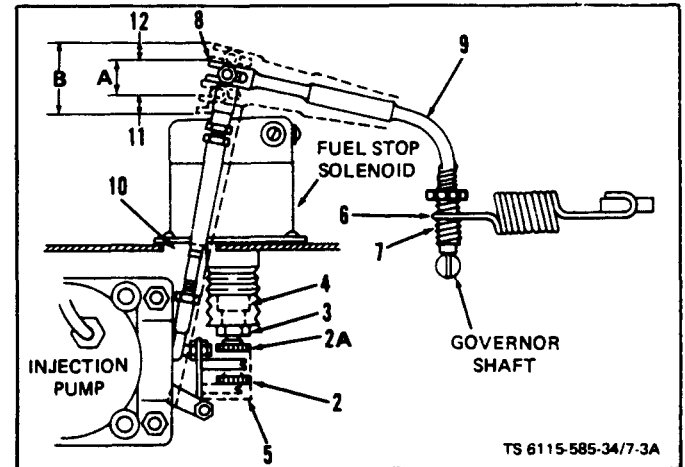

Figure 7-3.1. Governor Linkage Adjustment
f. Preliminary Linkage Adjustment (figure 7-3.1). The following adjustments shall be made before starting the engine if the linkage was replaced.
(1) With link (1) compressed, adjust length between ball joints to 5-1/2 in.
(2) Set solenoid bumper screw to shut off position, dotted line (2), by loosening locknut (3) on solenoid plunger (4). With plunger down, adjust bumper screw to push control unit post down, dotted line (5), to maximum shutoff position.
(3) Hook governor spring (6) in the mid-range of sensitivity ratchet (7).
(4) Manually move governor arm and linkage to check for interference.
(5) Adjust position of upper ball joint in slot (8) on governor arm (9) so link (1) does not bind against fuel stop solenoid or hole (10). A slight contact of link to bottom of solenoid is permissible but only at shut down. The fuel control unit should move up to position (2A) when solenoid is energized with start switch.
h. Speed Droop Adjustment (figure 7-3.1 ). Droop between no load and rated load is adjusted by rotating ratchet (7). Clockwise rotation decreases droop; counterclockwise rotation increases droop. Start engine and with no load, adjust speed control for rated frequency. While observing the set fre-